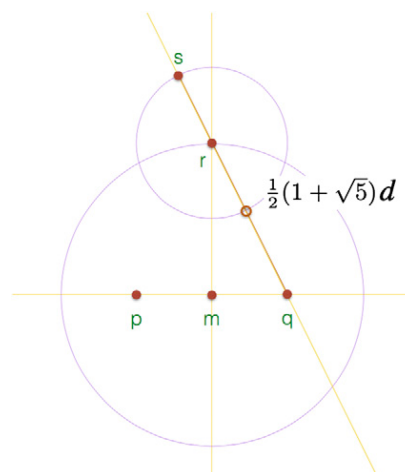

Figure 3.
*Make another little circle whose radius is the length p m (i.e., half of d), center it on r, extend the diagonal line through q and r, take the top intersection and call it s.* (figure 3).